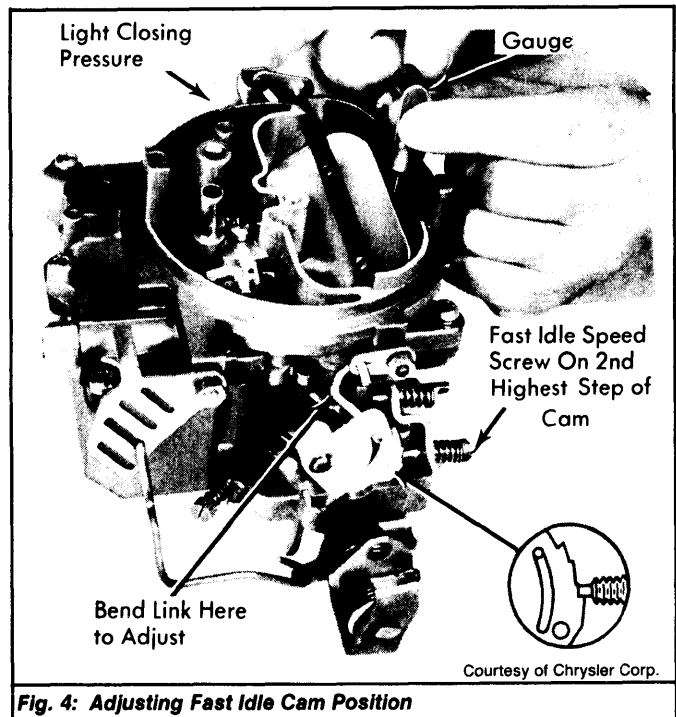

Fig. 4: Adjusting Fast Idle Cam Position
3) To adjust, bend fast idle cam connector rod at existing bend. See appropriate CARBURETOR ADJUSTMENT SPECIFICATIONS table. See Fig. 4.